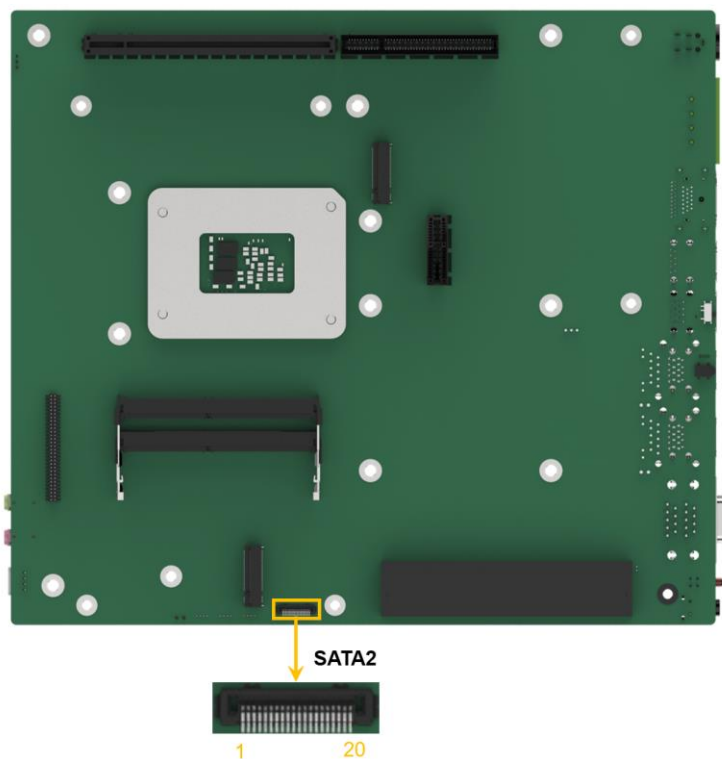

Figure 4-21: SATA 6Gb/s Connectors Location
- CN Location:** See **Figure 4-21**